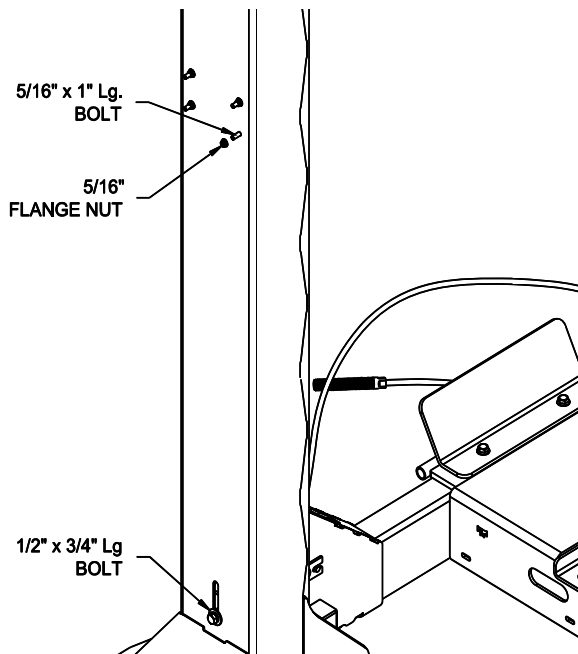

Fig 13 – Power Unit Mounting Bolts
- 29) **POWER COLUMN ONLY** – Thread the front power side locking ladder jam nut (located under the column top plate) down approximately 1/2". Remove 1/2" x 3/4" lg. lock ladder securing bolt from bottom of column and rock the ladder to one side to allow access to power unit mounting holes and insert two 5/16" x 1" flange head bolts from the inside out and secure with 5/16" flange nut, Fig 13. Shift ladder to opposite side and install remaining two power unit bolts. Reinstall lower ladder bolt.
- 37) Install the power unit and the air button valve assembly on the power column, **Figs 13 & 15**.